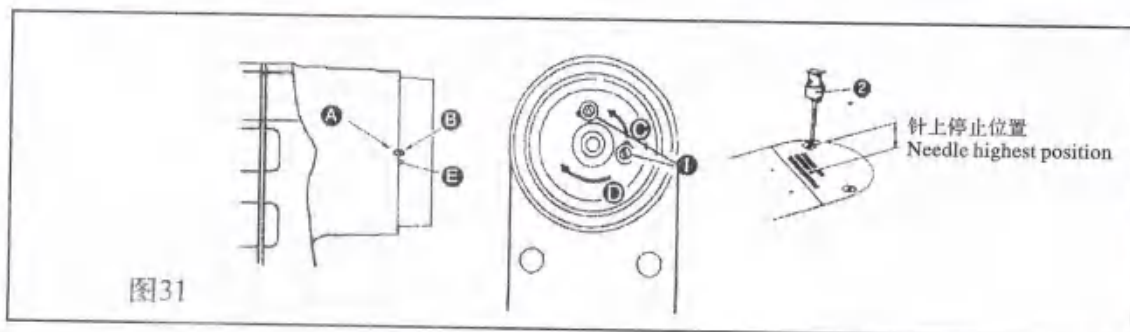

图31
- 1) When sewing heavy-weight materials, move thread guide ① to the left (in direction ④) to increase the length of thread pulled out by the thread take-up.
- 2) When sewing light-weight materials, move thread guide ① to the right (in direction ⑤) to decrease the length of thread pulled out by the thread take-up.
- 3) Normally, thread guide ① is positioned in a way that marker line ③ is aligned with the center of the screw.
26. 停针位置的调整 (图31) ADJUSTING THE NEEDLE STOP POSITION (FIG.31)